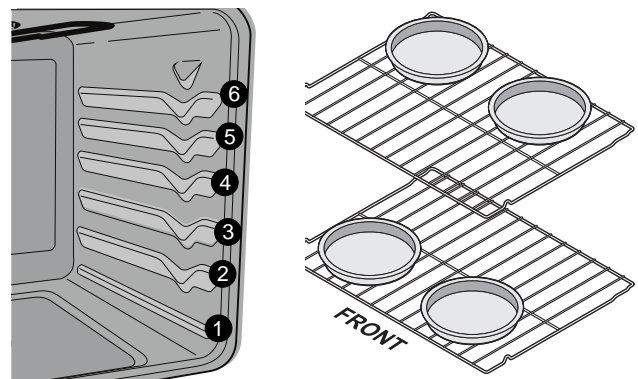

Figure 10: Rack positions; Pan positions two rack baking
- For best results when baking cakes using two oven racks, place racks in positions 3 and 5 (See Figure 10).
- When baking cakes using two oven racks, position cookware as shown in Figure 10. Allow at least 2 inches (5 cm) of space between cookware for proper air circulation.